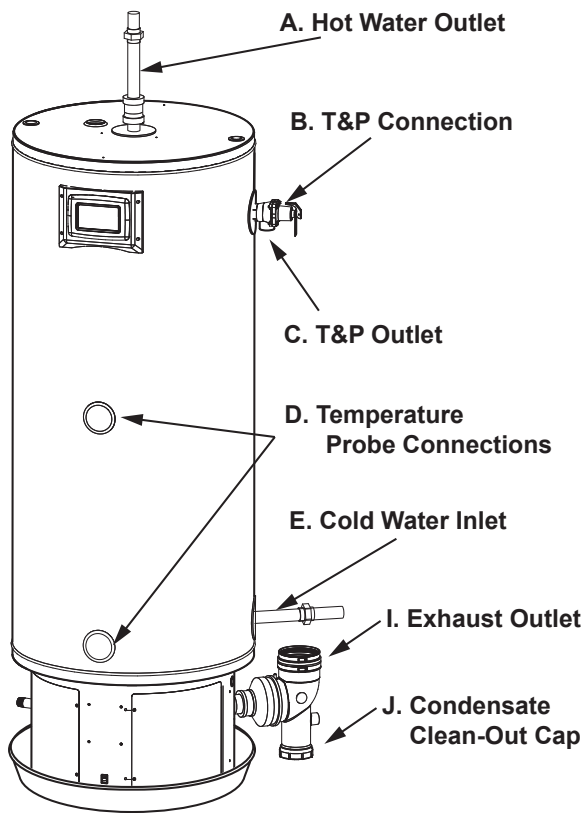

Figure 48. Leakage Checkpoints
- E. Water from a drain valve may be due to the valve being slightly opened. (Not shown in **Figure 48**).
- F. *The drain valve may be leaking at the tank fitting. (Not shown in **Figure 48**).
- G. Leakage from recirculation plug or pipe connection. (Not shown in **Figure 48**).